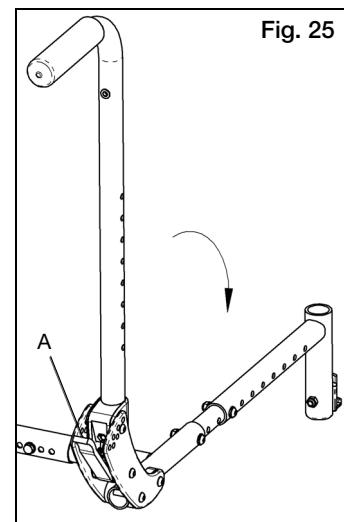

Fig. 25
- If chair is equipped with a fold down backrest, push levers (Fig. 25:A) toward the front of the chair to disengage the latches. If backrest seating is attached, both latches must be disengaged simultaneously in order to allow the backrest to fold.